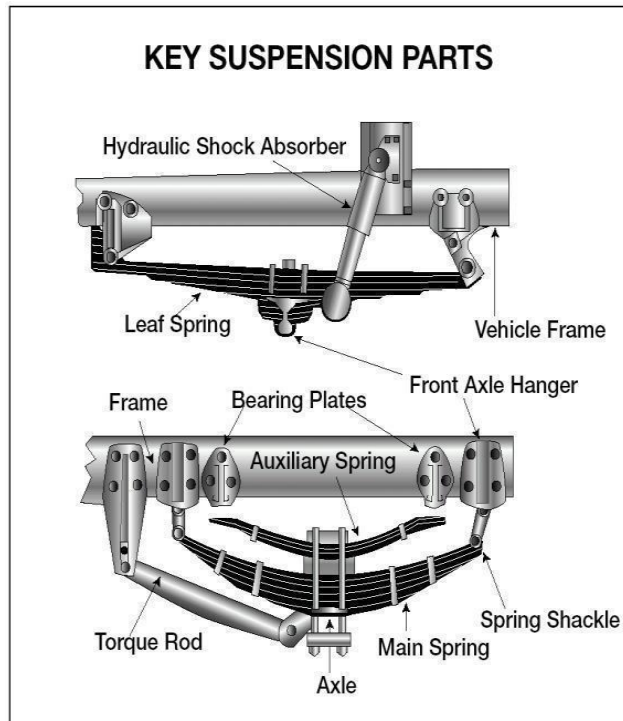

Figure 2.2
- Spring hangers that allow movement of the axle from the correct position. See Figure 2.2.